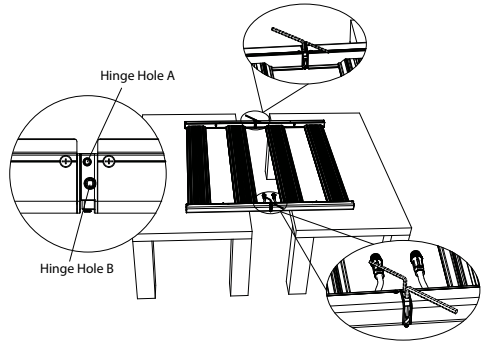

Fig. 4
d. Use allen key (Part C) to fasten hinge hole A and B on both side hinges, as Fig. 4.